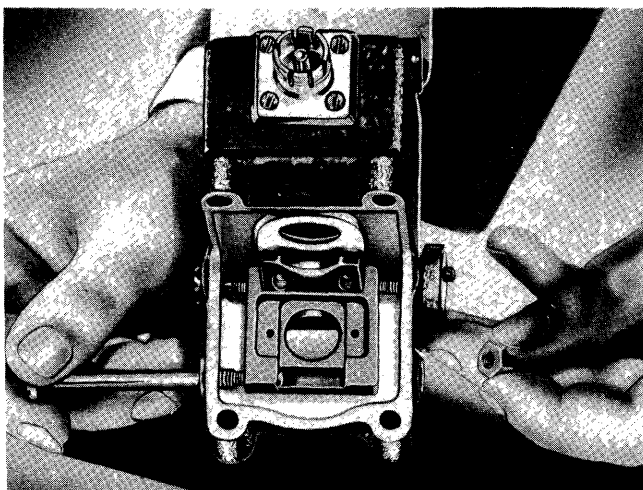

Figure 105E
1. Unscrew the nut on the reticle slide and remove the slide. (See figure 105E.)